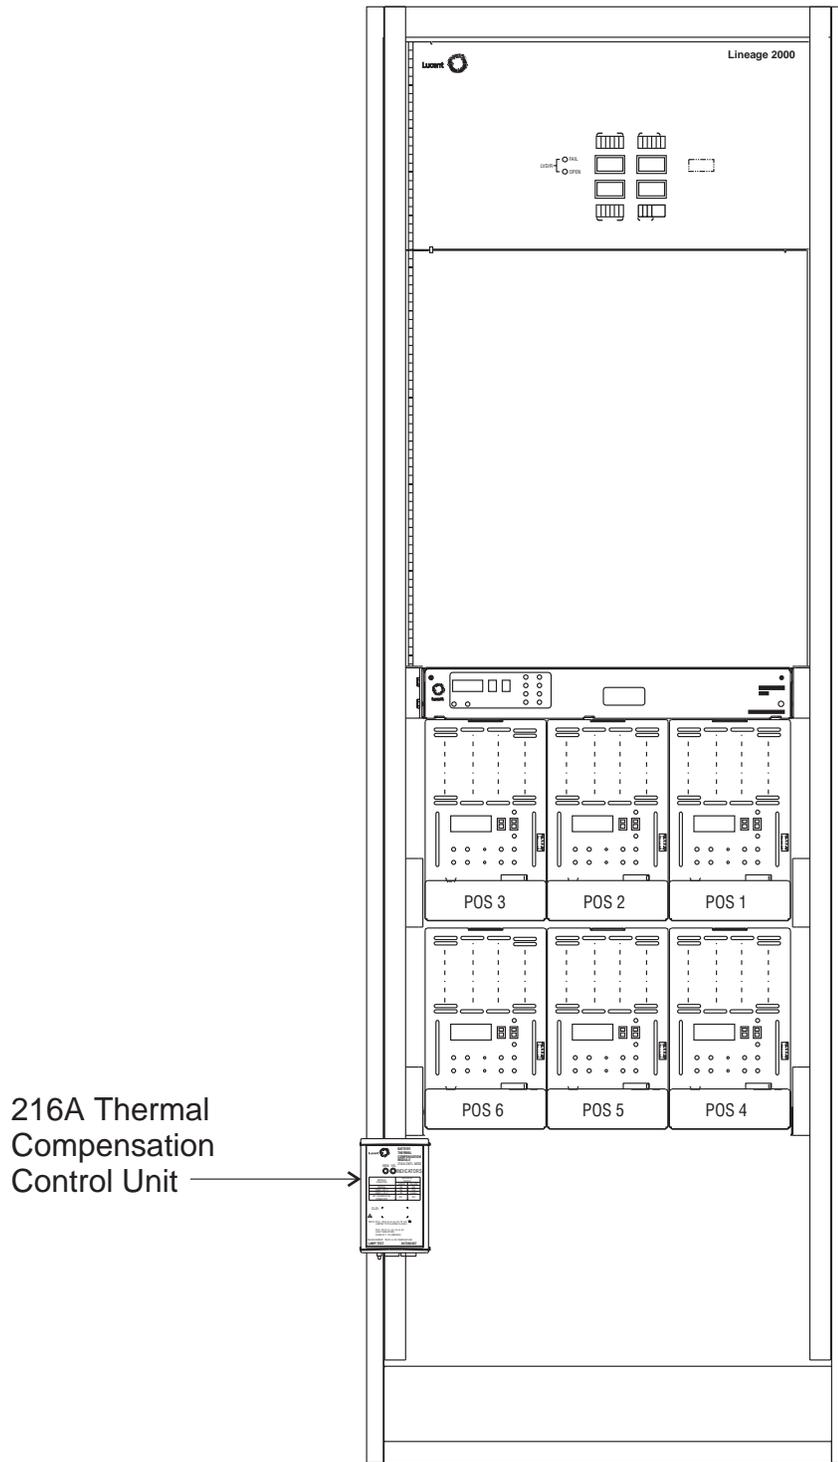

Figure 4-8: Plant frame work (placement of control unit, option 1)
work (List 1 or List 3): (a) below the lowest Rectifier shelf if 2 or less shelves are present, using (2) 10-32 screws provided or (b) on the frame work in an unused end rectifier position , using (2) 10-32 screws provided. Consider further plant growth (rectifier shelves/rectifiers) before choosing this option. (See Figure 4-8 for Option 1).